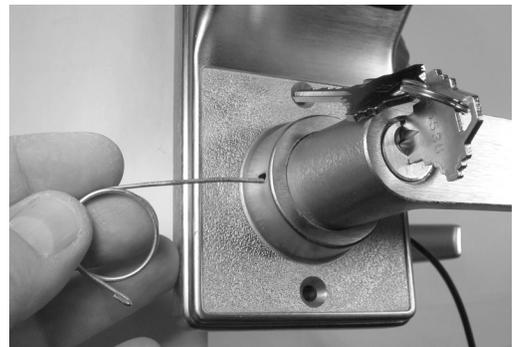

FIG. 5: INSERT LEVER RELEASE PIN
1. Insert the metal key into the secondary side lock cylinder. Turn the key 45° (either direction).
2. See Fig. 5 and 6. Insert the lever release pin through the oval hole located in the secondary side housing and through the small round hole in the lever. While depressing the lever catch, pull off lever. See Fig. 6 for an image of the lever catch.